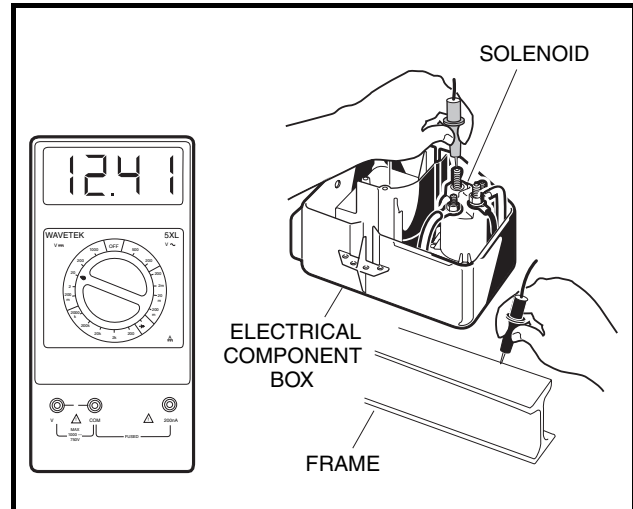

Figure 11-31 Test Solenoid Ground
10. With the Forward/Reverse handle still in NEUTRAL, set the multimeter to 20 volts DC and place the red (+) probe on the large post that does *not* have wires connected to it. Place the black (–) probe on the vehicle frame. Turn key switch to the START position and listen for the solenoid click. While holding the key in the START position, the meter should read full battery voltage. If the reading is incorrect, replace the solenoid (**Figure 11-31, Page 11-27**).